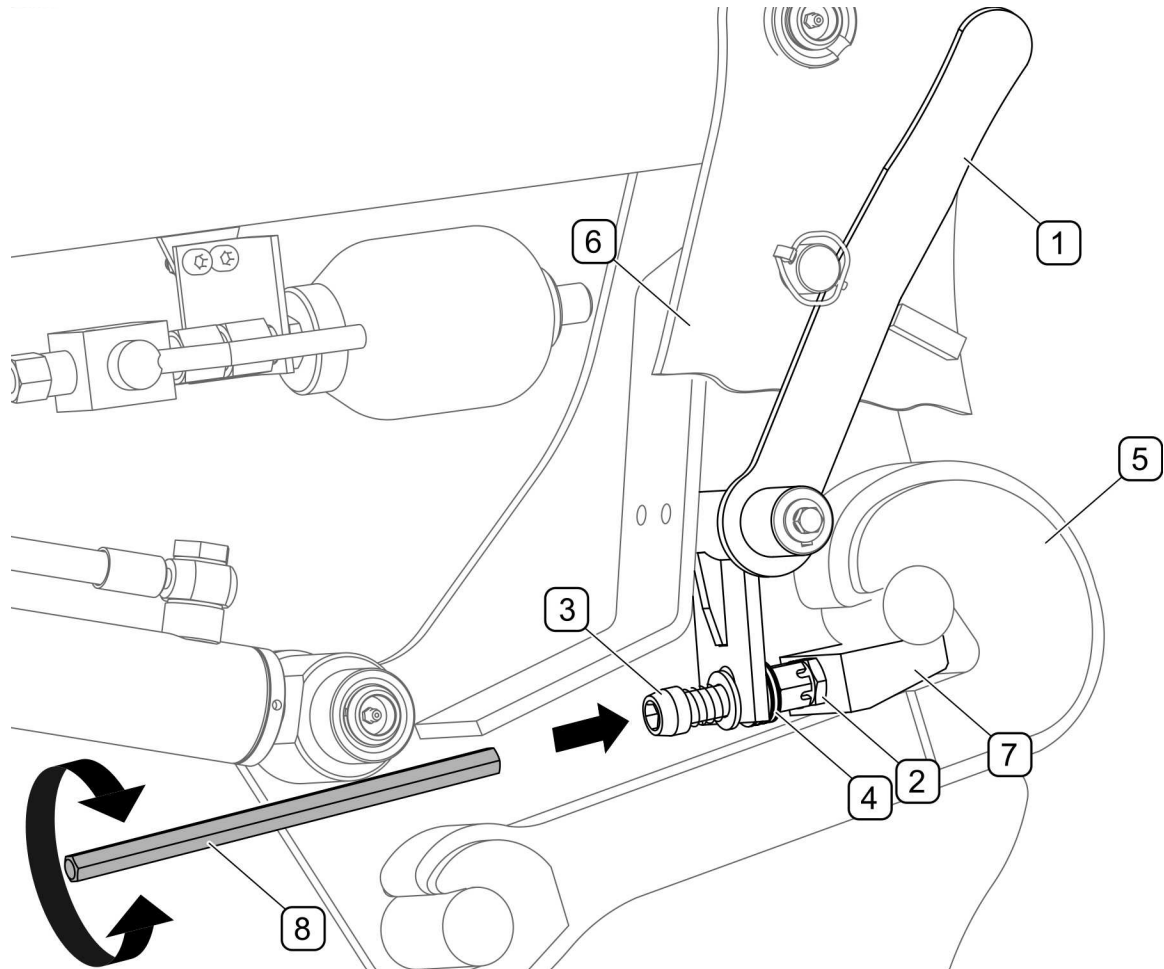

FIGURE 5.2 Adjustment of quick coupler locks
If slack is detectable on lever (1) in closed position after connecting the loader arm to support structure, adjust the locks (FIGURE 5.2). Inspection and adjustment is performed for both locks with loader arm suspended on support frame. Make the adjustment using special key (8) included in the loader equipment.
Screw out bolt (3) until complete closing of plate springs (4) visible from above hook (5) between panels (6). Check whether lever (1) can be locked again after unlocking (FIGURE 5.2). If not, then tighten bolt (3) by ½ turn. Try to lock the lever again. If it is possible to lock lever (1) and springs are compressed, then disconnect loader from support frame and tighten counter nut (2) to wedge (7). Suspend loader arm on support frame, lock lever (1) in closed position and secure with cotter pin. If plate springs are not compressed then repeat the adjustment.